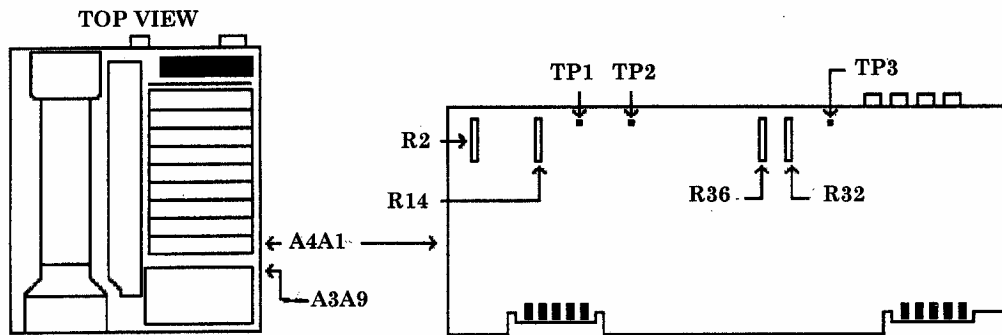
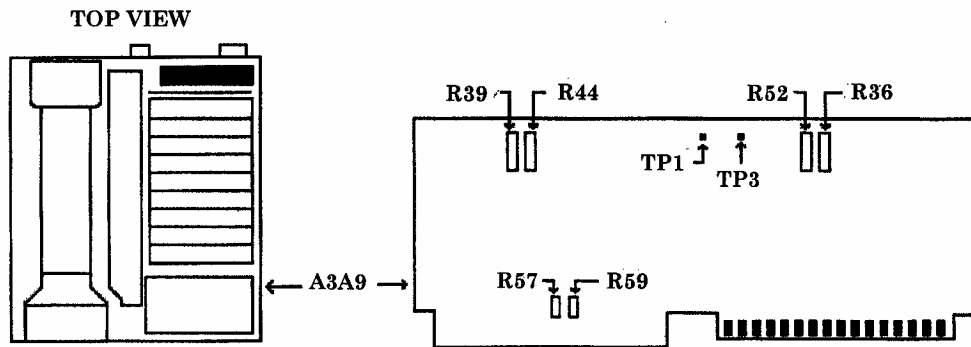

Figure 21. A4A1 board.
Figure 22. A3A9 board.
- (1) Set TI **LINE** switch to **STANDBY**.
- (2) Remove TI top cover.
- (3) Remove cables attached to the A3 digital storage cage.
- (4) Remove digital storage cage cover.
- (5) Reconnect cables to digital storage cage removed in (3) above.
- (6) Connect TI **RF INPUT** to TI **CAL OUTPUT** through attenuator No. 2.
- (7) Set TI **LINE** switch to **ON**.
- (8) Press TI **2-22 GHz** key.
- (9) Connect multimeter **HI** to A4A1TP1 (fig. 21) and multimeter **LO** to A3A9TP1 (fig. 22).
- (10) Press TI keys as listed in (a) through (c) below:
- (11) Set attenuator No. 2 to 120 dB. Multimeter indication should be 0.000 ± 0.001 V dc (R).
- (12) Connect multimeter **HI** to A4A1TP2 (fig. 21).
- (13) Adjust A4A1R14 (fig. 21) for a multimeter indication of -5.000 ± 0.003 V dc (R).
- (14) Connect multimeter **HI** to A4A1TP1 (fig. 21).
- (15) Set attenuator No. 2 to 0 dB.
- (16) Press TI **REFERENCE LEVEL** key.
- (17) Adjust TI **DATA** knob for a multimeter indication as close to 1.000 ± 0.001 V dc as possible. (It may be necessary to slightly adjust the TI **AMPTD CAL** control to achieve required tolerance).
- (18) Press TI **SCALE LOG, 1, dBm** keys.
- (19) Connect multimeter **HI** to A4A1TP3 (fig. 21) and multimeter **LO** to chassis.
- (20) Adjust A4A1R14 (fig. 21) for a multimeter indication of 2.000 ± 0.010 V dc (R).
- (21) Set attenuator No. 2 to 120 dB.
- (22) Adjust A4A1R32 (fig. 21) for a multimeter indication of 0.000 ± 0.001 V dc (R).
- (23) Press TI keys as listed in (a) through (f) below:
- (24) Set attenuator No. 2 to 40 dB.
- (25) Connect multimeter **HI** to A4A1TP1 (fig. 21). Record multimeter indication.
- (26) Press TI **REFERENCE LEVEL, 60, -dBm** keys.
- (27) Adjust A4A1R2 (fig. 21) for a multimeter indication 0.100 ± 0.001 V dc greater than the indication recorded in (25) above (R).
- (28) Press TI **REFERENCE LEVEL, 70, -dBm** keys.
- (29) Multimeter indication should be 0.200 ± 0.002 V dc greater than the indication recorded in (25) above. If not, readjust A4A1R2 (fig. 21).
- (30) Press TI **REFERENCE LEVEL, 90, and -dBm** keys.